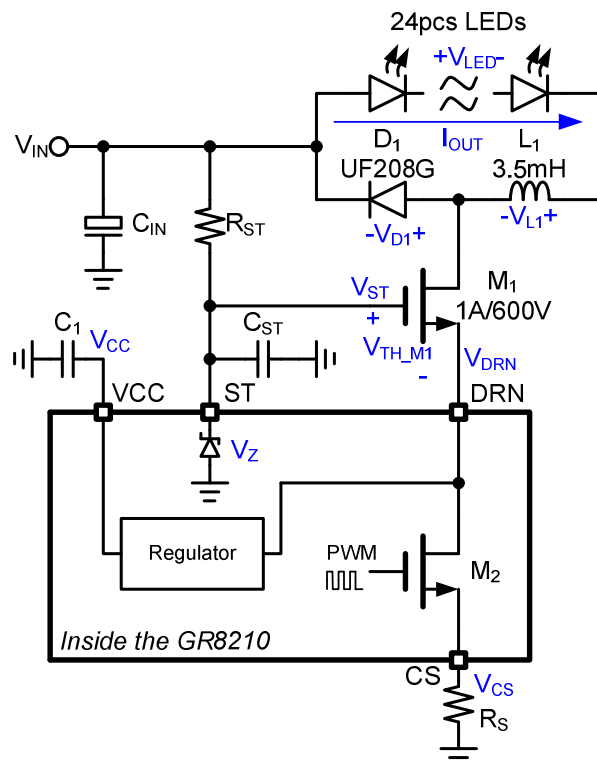
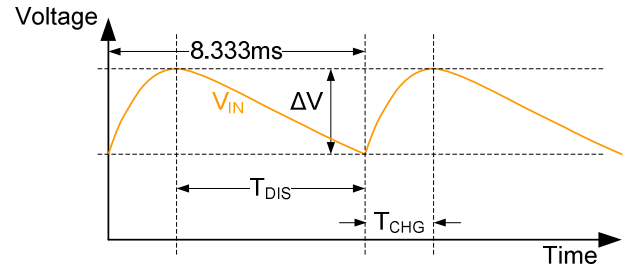

Figure-1 The brief schematic to explain the system operation.
Figure-6 The waveform of input voltage in the  $C_{IN}$ .
\* Refer to the Figure-1.
GR8210 is a cascade topology constant current PWM converter for high brightness LED driving. In the Figure-1, after the  $V_{IN}$  ramps up, the  $V_{ST}$  also ramps up to the target with a delay time. This voltage turns on the  $M_1$  when its level greater than the  $V_{TH\_M1}$ , then the  $V_{CC}$  was created.  $M_2$  was turned on in the on period of the first cycle. The current flows through LEDs,  $L_1$ ,  $M_1$ ,  $M_2$ ,  $R_S$ , and back to  $C_{IN}$  finally. In the end of this period, the  $M_2$  might be to turn off when the  $V_{CS}$  reached 0.25V. A fixed off time was followed as the off period of the first cycle. During the off period, the current flows through LEDs,  $L_1$  and  $D_1$ . A new cycle will start when the fixed off time finish.
An internal regulator in the GR8210 could generate a 5V voltage source to supply the operating current for control circuit. The input voltage of the internal regulator is the  $V_{DRN}$ .  $V_{CC}$  regulated in the  $M_2$  off period due to the  $V_{DRN}$  is approximately zero volt in the  $M_2$  on period. Therefore, a capacitor, shown in the Figure-1, located to the VCC to hold on the  $V_{CC}$  during the  $M_2$  on period is necessary. The ceramic type of capacitor is suitable for  $V_{CC}$  retaining, a  $1\mu F$  capacitor could supply the operating current of the control circuit for tens microsecond with a very good voltage regulation.
The different height of  $V_{CS}$  means the different  $I_{OUT}$  that shown in the Figure-1. The line voltage compensation function was applied in the GR8210 to improve the output current regulation. The  $V_{P1}$  to  $V_{P3}$  in the Figure-4 illustrates the compensation results by the line voltage compensation.
In the Figure-1, the  $C_{IN}$  retained the  $V_{IN}$  with ac part, the waveform was shown as Figure-6. Before the input capacitance decision, the users must define the input voltage ripple in the system. A useful rule
The (5) to (7) could be used to estimate the capacitance of  $C_{IN}$  that shown in the Figure-1.
The external NMOSFET in the Figure-1,  $M_1$ , was connected to the DRN of the GR8210. Most of the input voltage was across the drain and source terminals of  $M_1$ . The specifications of a suitable device are, the continuous current range of 1A to 2A, the maximum drain to source voltage is 600V and the maximum gate to source voltage is 20V. To choose an external NMOSFET with better specifications than above will not improve the efficiency significantly.
The users could apply a digital duty modulation signal into DIM pin to use the PWM dimming. The  $I_{OUT}$ , shown in the Figure-1, would regulate in the high state of PWM signal and stop regulating in the low state of PWM signal.
Figure-7 The waveforms of  $V_{IN}$ ,  $I_{OUT}$  and  $I_{OUT\_AVG}$  that shown in Figure-1. These waveforms illustrate the switching dimming procedure and behavior.